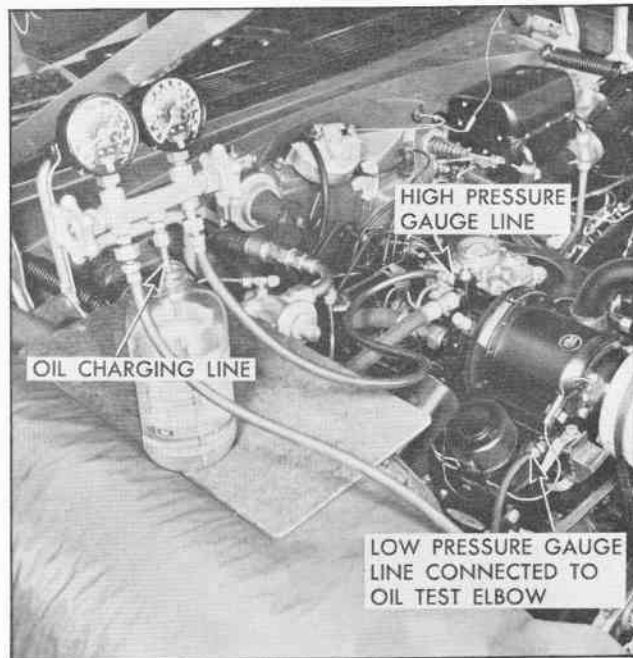

Fig. 13 Gauge Set in Position For Adding Oil
12. While vapor is still slowly escaping from the oil charging line, insert the tube to the bottom of the oil bottle (Figure 13) and allow vapor to slowly bubble through the oil.